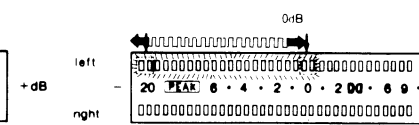
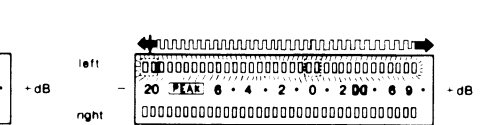

Fig. 18
Fig. 19
B. Adjust VR302 so that the +1dB segment of the FL meter lights up with the input level of 0±0.4dB range of the standard input level (See fig. 18).
7. Repeat twice between steps (5) and (6) above.
8. Adjust ATT and check that all segments light up when an input signal level is increased to 10dB higher than the standard input level (See fig. 19).